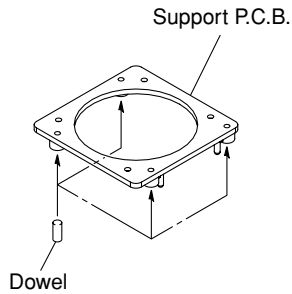

Fig. 3
- a. Using dowels together, install the support P.C.B. into its 4 installation holes. (Fig. 3)